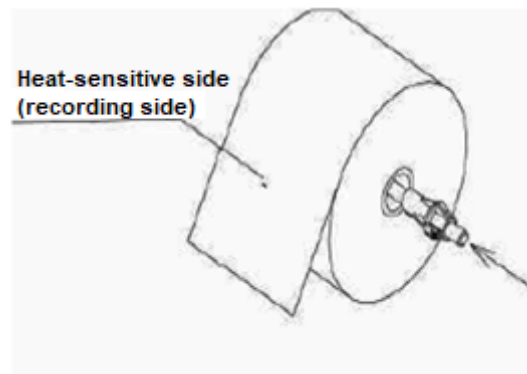

Figure 73. Printer paper
- Assembly the new paper roll onto the spool ensuring it is the right way around as shown in Figure 73